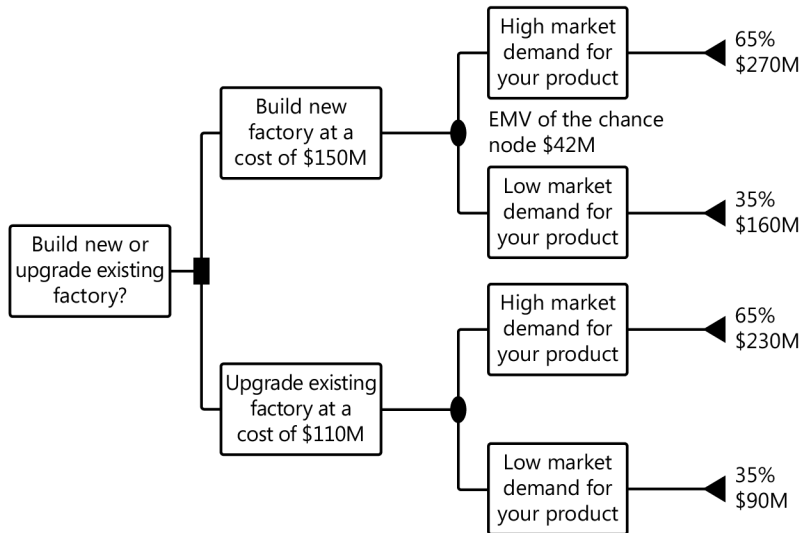

FIGURE 9-9 This decision tree shows the expected monetary value of a new factory versus an upgrade to an existing factory.
3. Consider the decision tree shown in Figure 9-9 outlining a choice about whether to build a new factory or upgrade an existing factory to take advantage of increased demand for your product. Using expected monetary value analysis, what is the best decision to make?